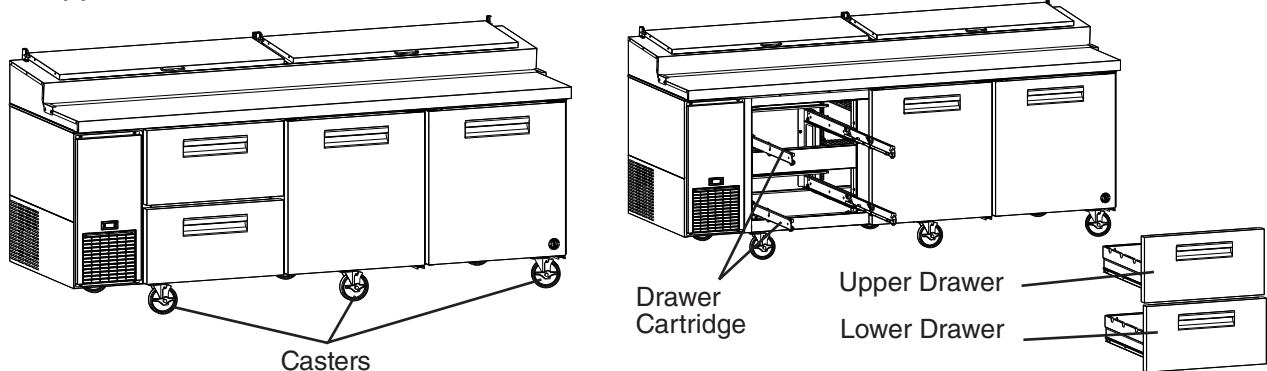

Fig. 19
- 1) Remove all items from the appliance. Make sure the appliance is unplugged from the electrical outlet. Move the appliance out for ease of access then lock the casters. See Fig. 19.